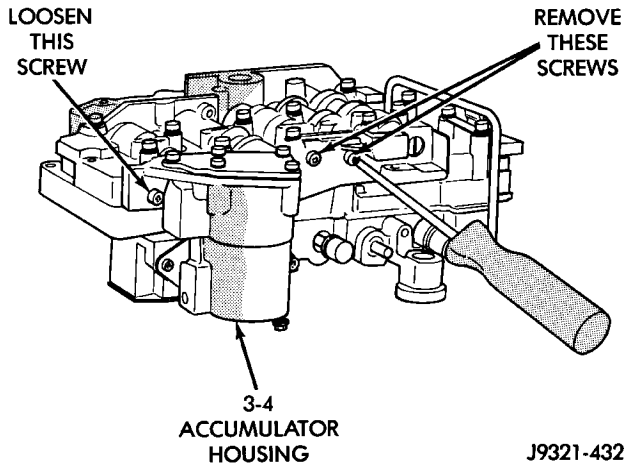

Fig. 55 Accumulator Housing Screw Locations
(23) Loosen left-side 3-4 accumulator housing attaching screw about 2-3 threads. Then remove center and right-side housing attaching screws (Fig. 55).